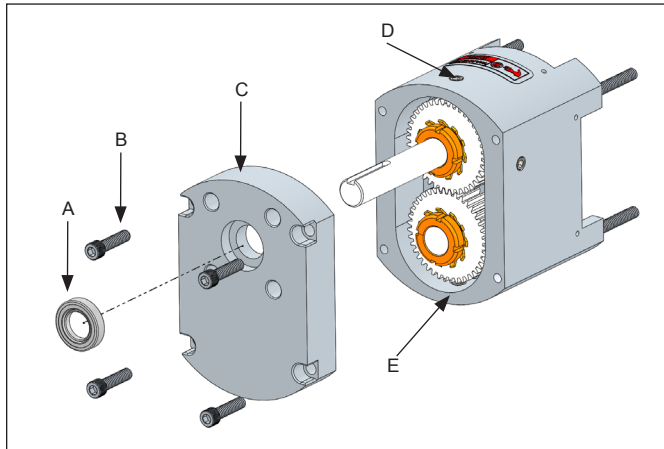

Figure 37. Gear Case Disassembly (Gear Case Cover)
1. Remove the pump head as described on *page 21* (Pump Disassembly). Remove the bottom oil plug and drain the oil from the gear case (remove oil fill plug for faster drain). Remove the six hex head cap screws and washers from the gear case cover and slide the cover off the drive shaft (*Figure 37*). If the cover is stuck, use a soft mallet to tap around the edges until it breaks free. Using a straight edge remove the liquid gasket used to seal the cover to the gear case. Remove and discard the oil seal from the cover using an arbor press.